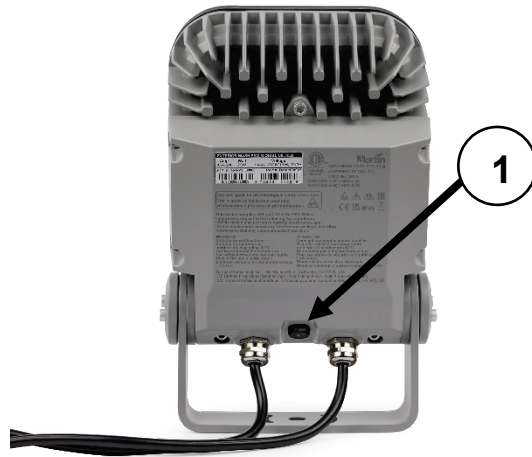

Figure 7: Pressure relief valve on Exterior Wash Pro Medium
9. Unscrew the pump adaptor (figure 3) from the product and immediately mount the pressure relief valve (figure 7) to prevent water droplets from entering the product.